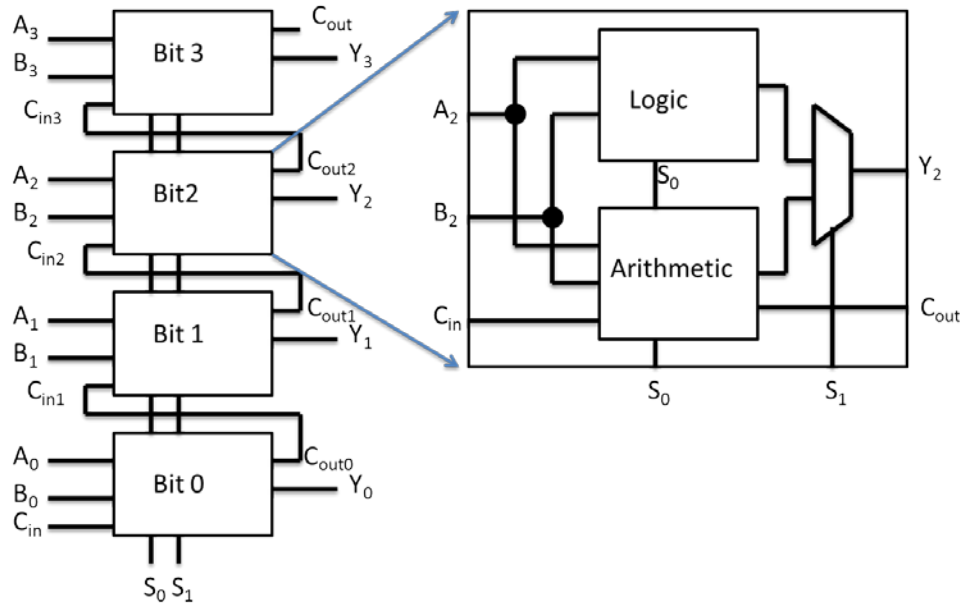

Figure 1: A generic 4-bit ALU organized into four bit slices each consisting of a logic block and an arithmetic block.
Many digital integrated circuits are designed to process multiple bits in parallel. For example, an 8-bit ALU with two inputs bytes will execute an arithmetic/logic function on all 8 input pairs simultaneously. As you might expect, the circuitry for each bit is exactly the same (with some minor exceptions). In such a case, it is more efficient to design and optimize 1-bit circuit blocks and then combine them into word-sized functions, which could contain to as many bits as needed. As discussed in the Lab 2 Background, the 1-bit circuit block for an ALU is called a *bit slice*. Figure 1 shows an example of a 4-bit ALU composed of four bit slices. Notice the select signals (S_0 , S_1) are shared by all bits so that they all perform the same task. The C_{out} bit from a lower-bit block is cascaded to the next bit block as its C_{in} input, and only the lowest bit (Bit 0) actually has an external input for C_{in} . The two 4-bit inputs $A[3:0]$ and $B[3:0]$ are paired bit-wise as inputs to each of the bit slices. Note: the B input to the ALU is not the same signal as the B input of the adder because the op-code will modify the B input of the adder (to B, B', or 0) regardless of the value in B. Each bit slice is composed of a logic block and an arithmetic block, and you designed a simple version of such blocks in Lab 2. For reasons beyond the scope of this class, for large-word ALUs (~16+ bits) this two-block architecture is not typically maintained, but it is functionally similar so this "simplified structure" is a good way to introduce ALU design.
The ALU is responsible for executing all of the arithmetic and logic functions for a CPU. The number of functions that an ALU can execute is determined by the number of functions implemented within the logic and arithmetic blocks of each bit slice. Operation codes, or op-codes, are the binary commands sent to the ALU to make it perform a specific operation (i.e., execute a specific function). Although you may think of op-codes as a software feature, the bits of the op-code are tied to specific hardware controls, like the select lines in the Figure 1 example. For large/complex ALUs, the op-codes may be an encoded form of the selection lines, but functionally we can consider the op-code bits as hardware selection signals. In fact, for simple function ALUs, like the one you will design in this lab, the op-code bits will be precisely the selection signals that specify what function the ALU will implement. The more functions an ALU can perform, the larger the op-code must be. Often an op-code can be optimized (use fewer bits) by careful organization of ALU selection signals so that multiple inputs can share the same op-code bit. Note that the op-code is responsible for setting all inputs that define the *function* of the ALU. Consider the example 4-bit ALU in Figure 1 and the design of your Lab 2 logic and arithmetic blocks that use 4:1 MUX circuits. The data inputs, A and B, are independent of the ALU function, but all of the MUX select signals and the C_{in} signal (the lowest-bit C_{in} ; see Figure 1) are external inputs that must be controlled by the op-code in order to set the desired ALU function.
Notice that the Bit Slice and ALU will have a Cout output. Like all digital outputs, Cout will have a value for all input combinations. However, logic functions do not generate a Cout. If you notice from Figure 1, Cout is always generated by the arithmetic function, even when Y is selected to come from the logic block. In practice, additional logic would be incorporated to ensure logic functions do not change the Carry flag status register, but for this simplified design we will omit this step and simply ignore the Cout bit for all logic functions.
7. Create a symbol for the ALUbitslice schematic (Create->from cellview...->symbol). A rectangular shape is fine. Generally, inputs are placed on the left and outputs on the right. You can move the select signals to the bottom or leave them on the left but separate them from the A, B & Cin inputs. The Figure 1 inset may be helpful.
2. Instantiate 8 ALUbitslice symbols into the schematic and stack them similar to Figure 1. Choose one of the bit slices to be your lowest order ALU bit, like the Bit 0 identified in Figure 1. It could be on bottom, or top, or left or right depending on how you organized the pins in your ALUbitslide symbol.
Observe the function table below that shows all of the ALU functions implemented in Lab 2 along with the logic and arithmetic selection bits. An “L” has been added to the logic selects (e.g., LS_1) and an “A” has been added to the arithmetic selects to reduce confusion. The table also includes an “ LAS_2 ” selection bit that is necessary to choose between logic and arithmetic functions (like the S_1 bit in Figure 1). Thus, you will notice that the logic selects are only defined when $LAS_2 = 0$, and arithmetic selects are only defined when $LAS_2 = 1$.
4. In the space below, sketch a schematic for a 1-bit bit slice composed of your LogicBlk, ArithBlk and 2:1 MUX from pervious labs. It should look something like the inset in Figure 1 but with more detail on the inputs. The LogicBlk and ArithBlk should show labels for all the inputs and outputs that your Virtuoso symbols for those blocks have. Open your Virtuoso files if you need to check. Include pins for the bit slice inputs (**A, B, Cin, S2, S1, S0**) and outputs (**Y, Cout**).